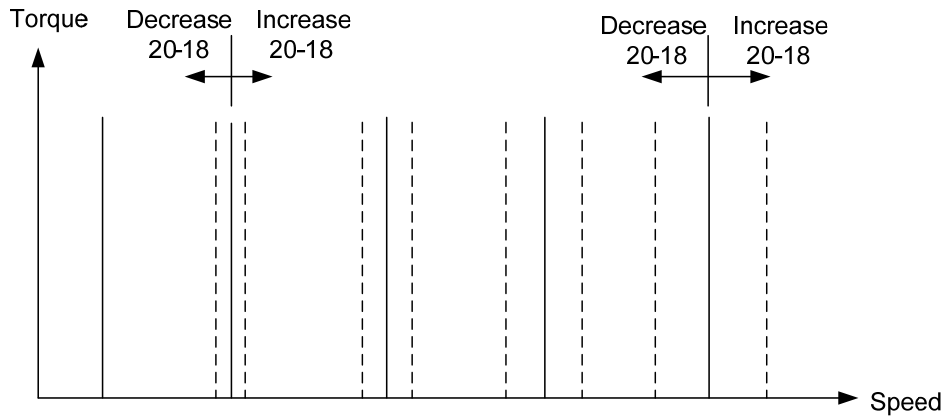

Figure 4.4.117 Effect on the torque-speed curve from 20-17
- Use parameter 20-18 to adjust the torque compensation gain for middle to high speed range. For most general purpose applications it is not necessary to adjust the 20-18. By tuning 20-18 an offset is added to the torque-speed curve. Increase 20-18 when the no-load speed is lower than the frequency reference. Decrease 20-18 when the no-load speed is higher than the frequency reference. The effect on the torque-speed curve from 20-18 is shown as the following figure 4.4.117.